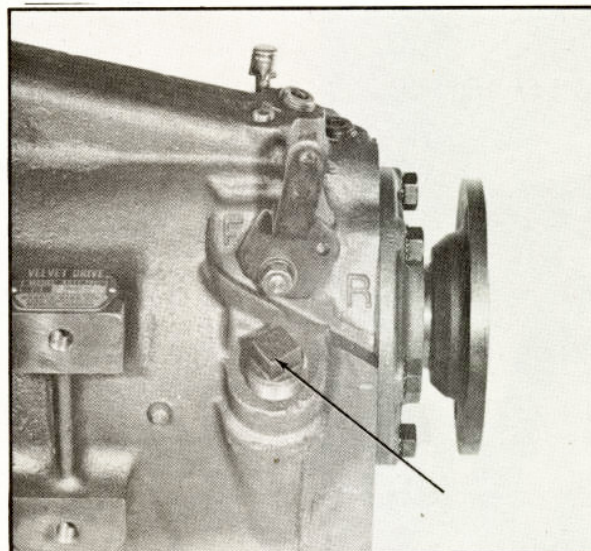

Fig. 76 Installation of Dip Stick Assembly
83. Install the dipstick assembly as shown in (Fig. 76) and tighten to a torque sufficient only to prevent oil leakage (approximately 10-15 pounds-feet).